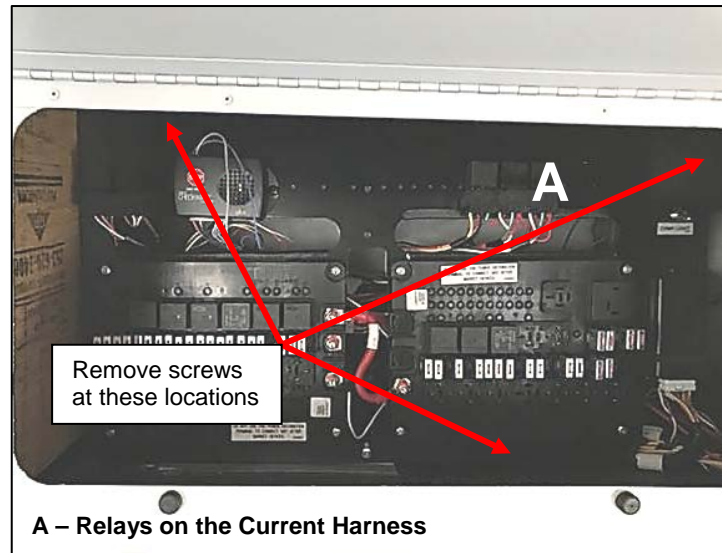

Figure 9: View of PC Boards
10. Open the PC board cabinet (above the driver's seat). See **Figure 9**.
11. Remove the three relays from the mounting panel (**Figure 9, Item A**) and push them back through the opening. Retain the screws and relays for installation of the new harness.